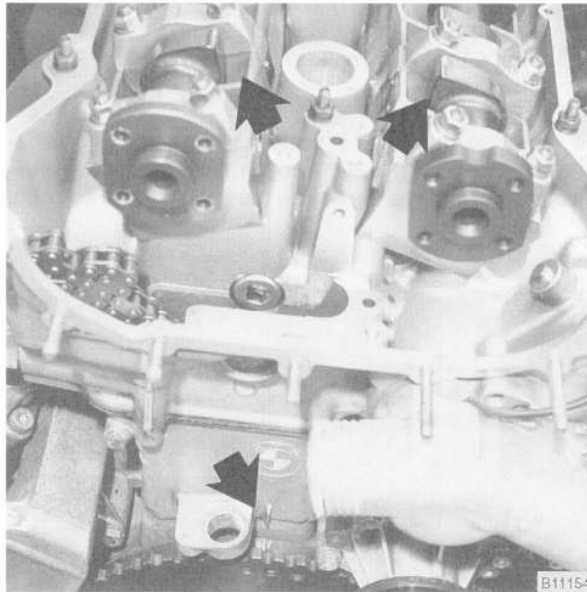

Fig. 38. Engine set to TDC—camshaft lobes face in and 0/T mark (0°TDC) on vibration damper aligns with boss on cover (arrows). Camshaft sprockets shown removed.
5. Set the engine to TDC by rotating the engine in the normal operating direction until the camshaft lobes at cylinder no. 1 are facing each other and the "0/T" mark (0°TDC) on the vibration damper lines up with the cast boss on the lower timing chain cover. See Fig. 38.